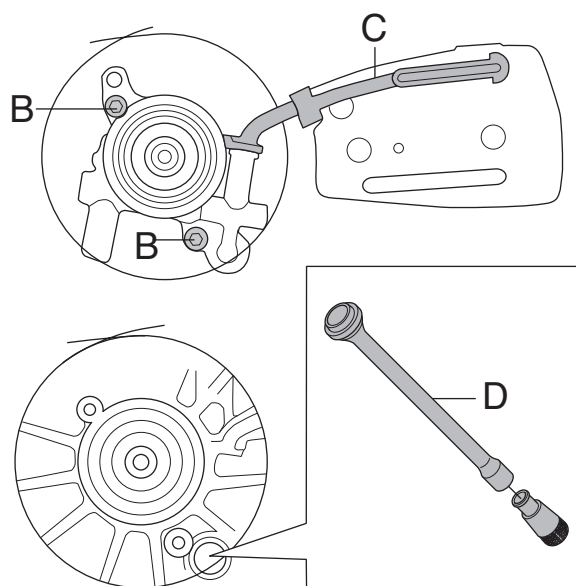

Fig. 2
6. Fit the washer and locking ring (B). See fig. 2.
4. Remove the two bolts (B) and lift up the oil pump from the crankcase. See fig. 2.
5. Use a screwdriver to push up the oil hose at C. Lift up the hose and pull it out of the oil pump. See fig. 2.
6. Use pointed pliers and pull up the suction pipe (D) with filter. See fig. 2.